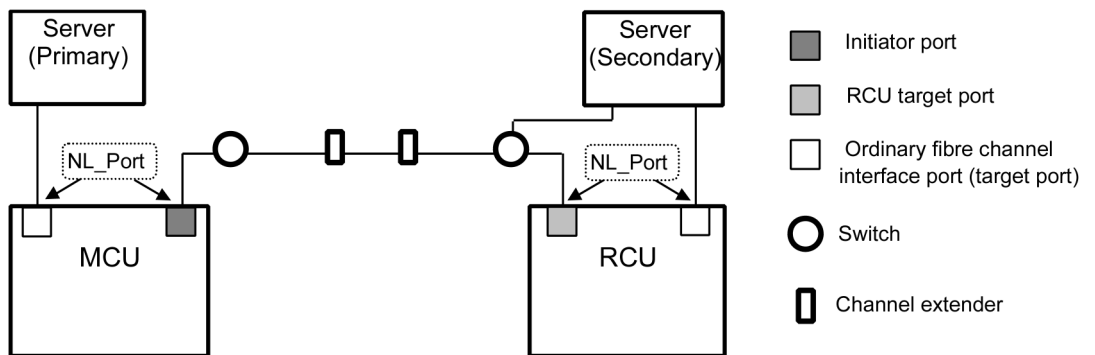

Figure 18. Fibre Channel (CNT USD or Edge) extender connection.
- **Extender connection** (see Figure 18): Channel extenders (CNT Ultranet or Edge extenders) and switches are used to connect an MCU and an RCU across large distances.